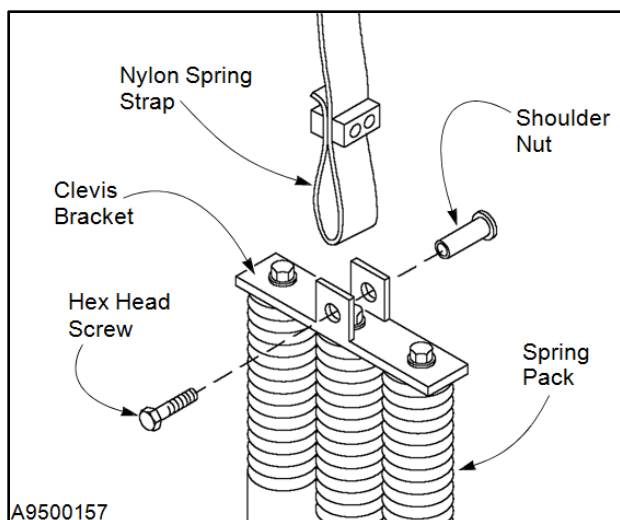

Figure 54
6. To release the strap from the spring pack, remove the hex head screw and the shoulder nut passing through the clevis bracket at the top of the spring pack. Save all hardware. (See Figure 54.)